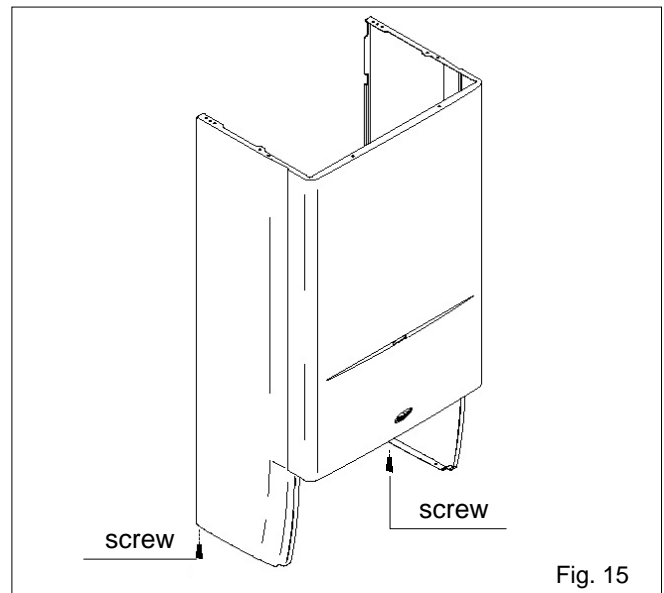

Fig. 15
- locate and remove the 2 screws that secure the casing to the back frame of the boiler (fig. 15)